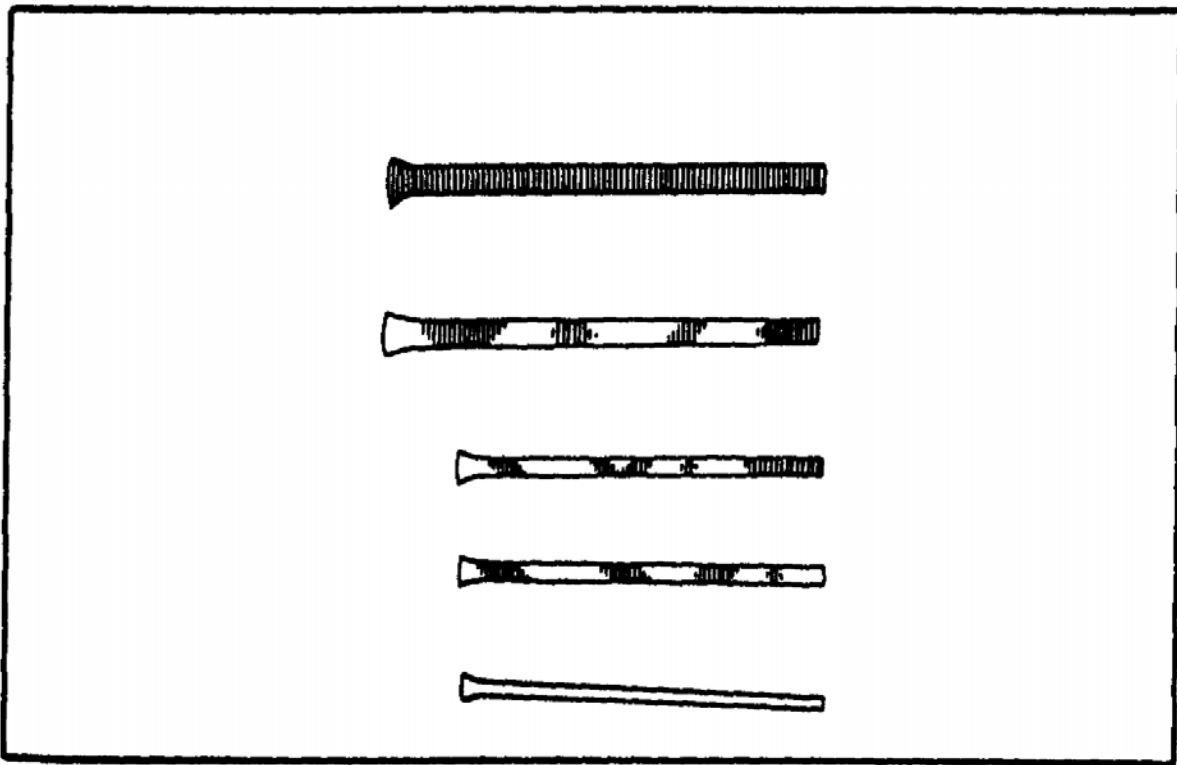

FIGURE 65. HAND PIPE AND TUBE BENDERS.
(1) *Benders*. Benders (figure 65) issued by the Army Ordnance Supply System are of the spring type sized to fit pipe and tubing ranging from 1/4 to 1 inch in diameter.